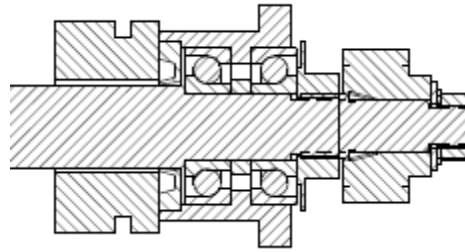

Figure 6.5e
2. Install the angular contact bearings into the housing and seal. The bearings should be installed in the Back-to-Back arrangement as shown in figure 6.5e. Make sure that the inner spacer is between the two bearings. Install the housing assembly loosely into the right side of the X-axis casting.
3. Install the angular contact bearings into the housing and seal. The bearings should be installed in the Back-to-Back arrangement as shown in figure 6.5e. Make sure that the inner spacer is between the two bearings. Install the housing assembly loosely into the bearing block on the Y-